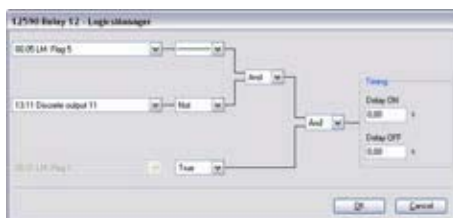

Fig. 167: LogicsManager function "Relay 12"
2. Configure the LogicsManager function "Relay 12" as shown in (Fig. 167).